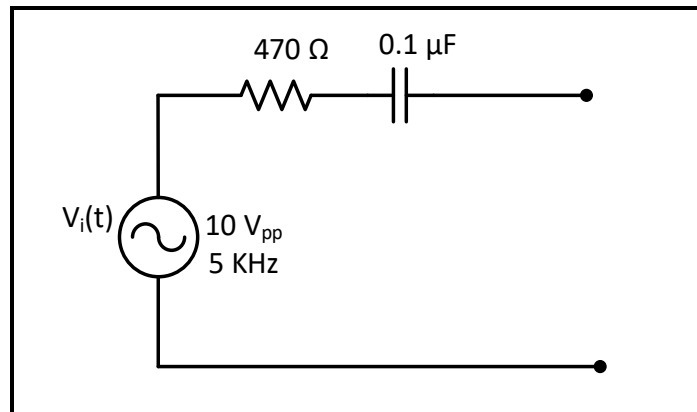

Figure 8.8
3. For the circuit of Figure 8.8, design a load that is when connected to the output terminals of the circuit will extract maximum average power, then calculate magnitude of P_{Max} .
1. For the circuit shown in Figure 8.8: connect the load, that you designed in your prelab in order to get the maximum power transfer to the load, to the circuit terminals.